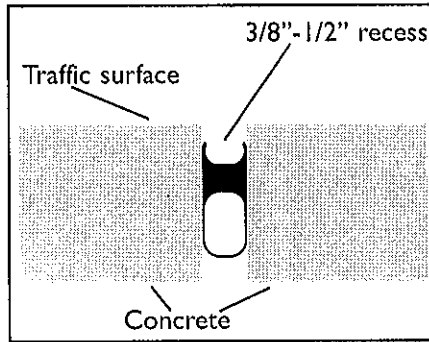

Figure 1
**Application:** Ideal surface temperature should be 60°F-85°F. Sealant should be applied to the prepared joint in a continuous operation. **Sealant should always be recessed 3/8"-1/2" below the traffic surface.** (See Figure 1).